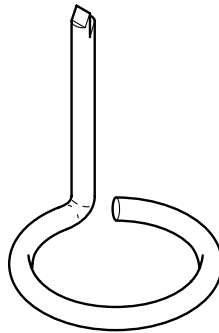

Fig. 3
- 9 Fig. 3 shows a metal bar that has been forged to shape. Explain the term 'to forge'.